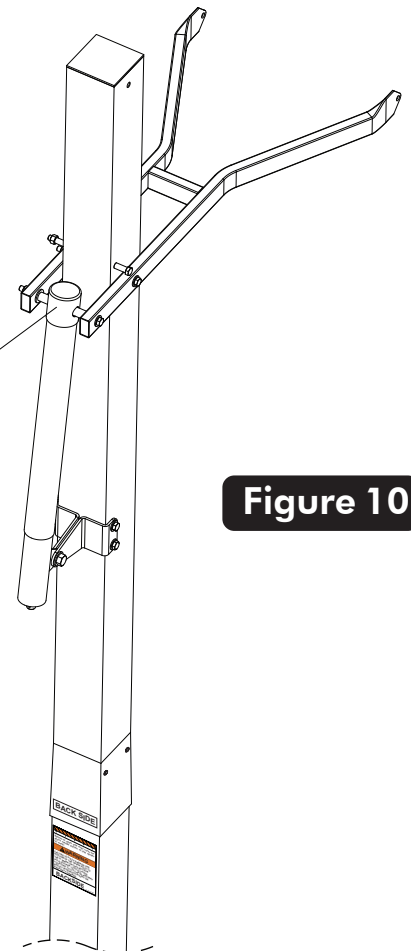

Figure 10
14. Secure Actuator (#16) to Lower Arms (#11) using one bolt (#22), two flat washers (#18), two plastic washers (#5) and one lock nut (#4). See **Figure 10** and **Detail 3**. Tighten both bolts (#22) snug but, **do not over tighten. Board Arms must pivot freely.**